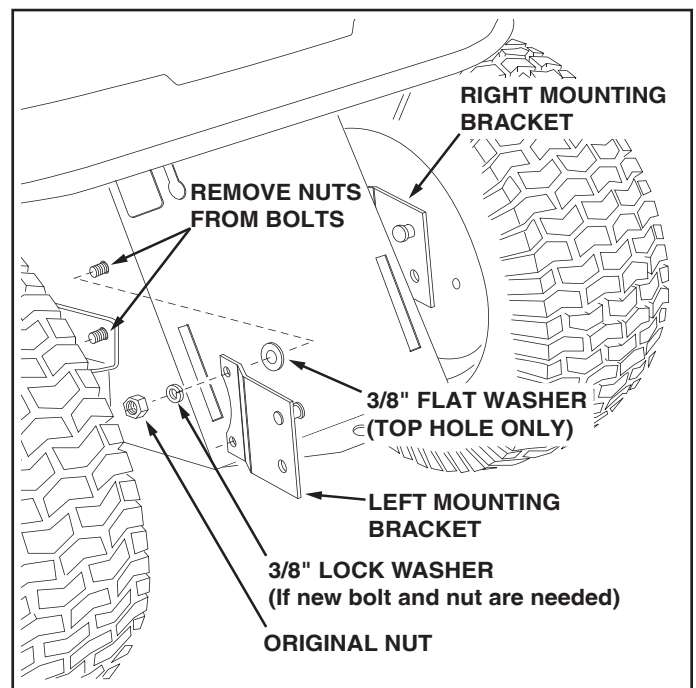

FIGURE 2B
IF YOUR TRACTOR LOOKS LIKE FIGURE 2B
3. Remove the nuts from the two bolts in each side of the tractor, leaving the bolts in place. See figure 2B.
4. Attach the left (LH) and right (RH) Mounting Brackets to the bolts using the original nuts and two 3/8" flat washers. The brackets should angle outward with the weld pins at the top of the brackets facing inward. See figure 2B.